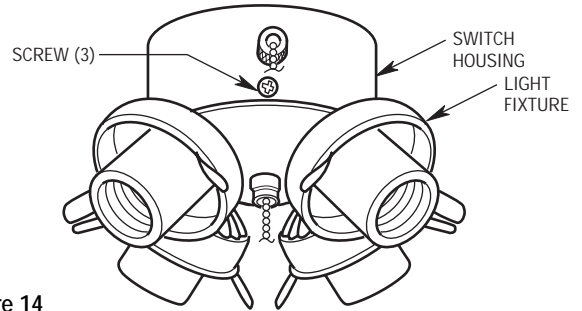

Figure 14
- 1. Remove and retain the three screws securing the light fixture to the switch housing (Figure 14). Remove and retain two wire connectors and disconnect the light fixture from the switch housing.